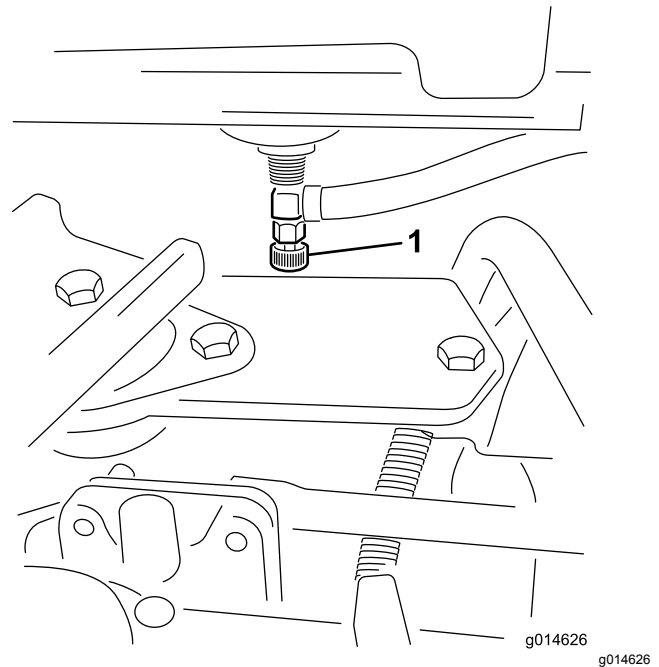

Figure 44
1. Close the fuel shut off valve (Figure 44) below the fuel tank.